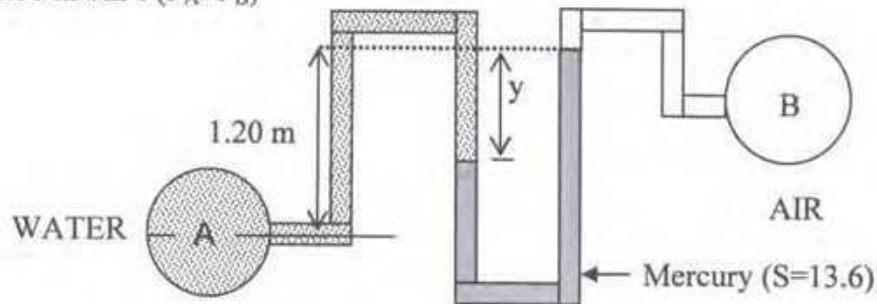

Figure 2
- d. Compute "y" in Figure 2 if the pressure differences between points A and B is  $150.00 \text{ kN/m}^2$ . ( $P_A > P_B$ )